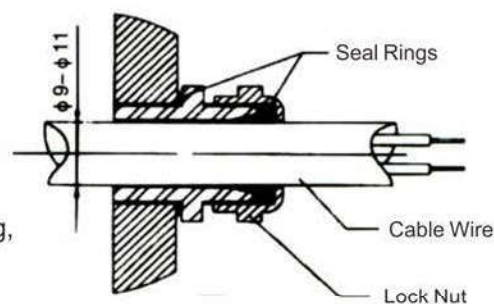

Figure 4
- Install wire tubes as shown in Figure 4.